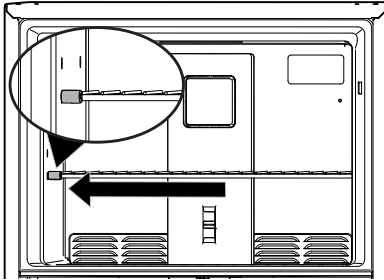

Figure 1
2. Remove the spacer. Remove the freezer shelf (some models) by pushing the shelf to the left until the right side of the shelf comes free from the holes. See Figure 1.